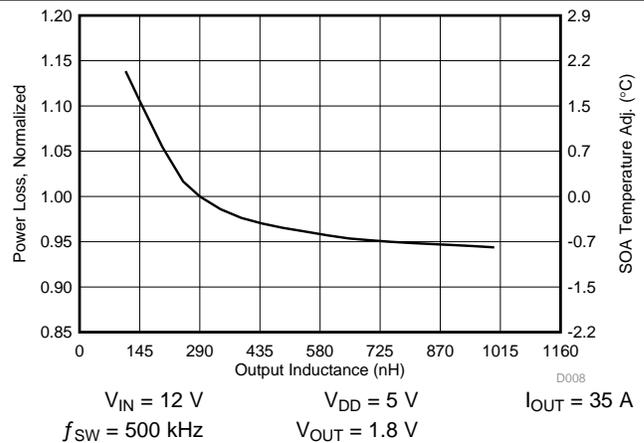

Figure 11. Normalized Power Loss vs Output Inductance
- Normalized power loss for output inductor \approx 1.01 (Figure 11)
- SOA adjustment for output inductor \approx 0.25°C (Figure 11)